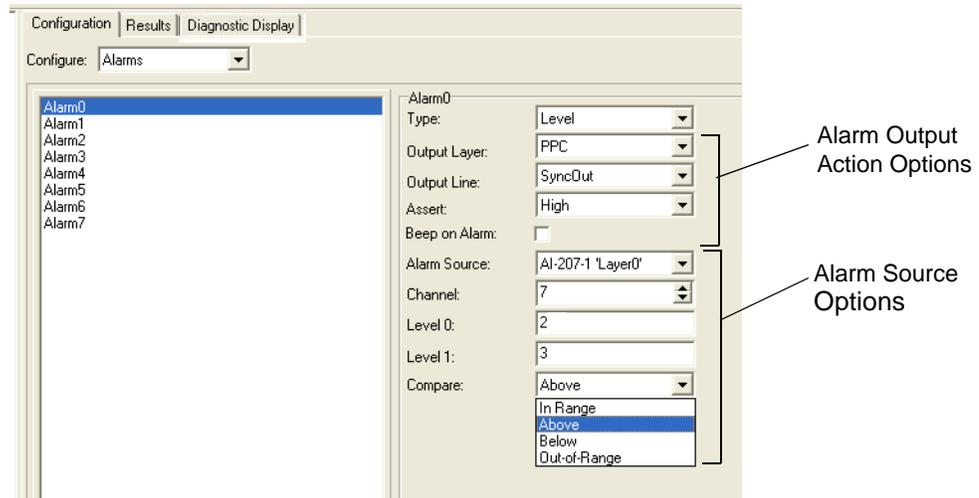

Figure 2-31. Configuring a Level Alarm Source
STEP 1: In the *Type* box, pull down the menu and select *Level*. The screen shown in **Figure 2-31** appears.
The alarm source options (see **Figure 2-31**) for a Level alarm are: